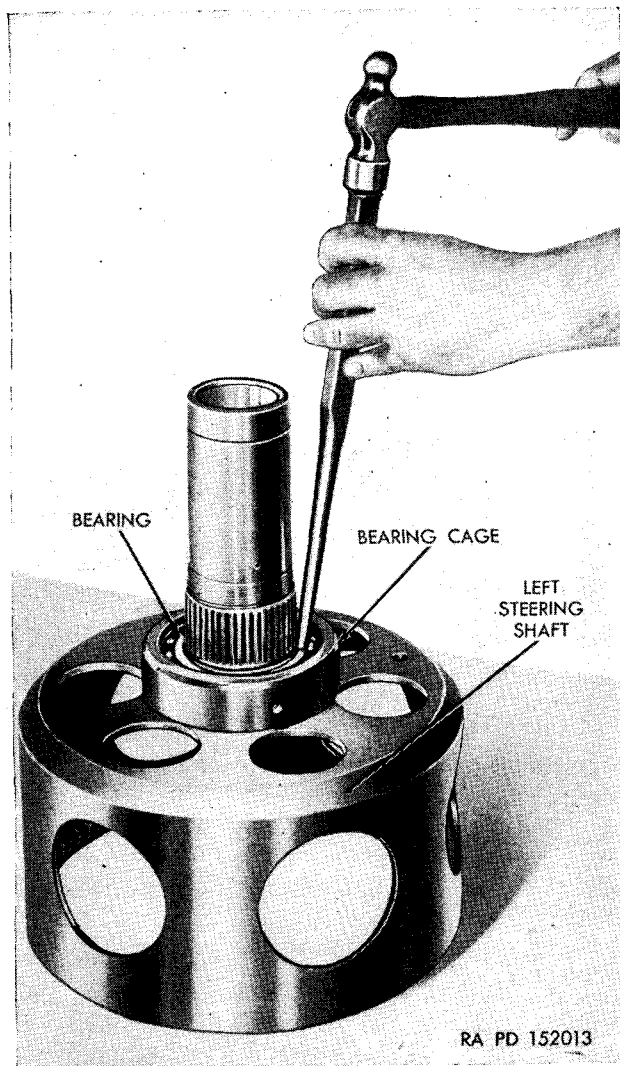

Figure 274. Installing bearing and cage assembly.
- retaining snap ring in the cage using a screwdriver. Heat the bearing and cage assembly and install it, snap ring side down, on the left-steering shaft (fig. 274).